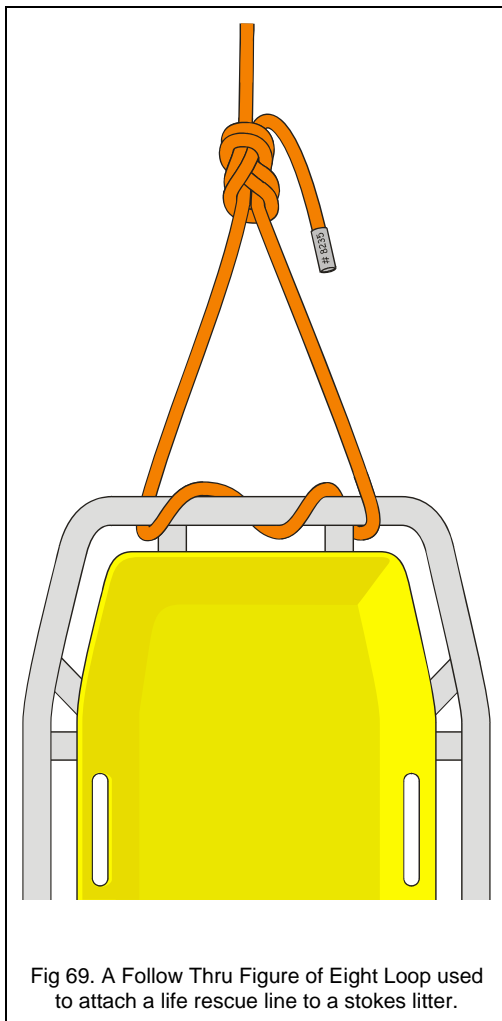

Fig 69. A Follow Thru Figure of Eight Loop used to attach a life rescue line to a stokes litter.
- Is an excellent method of attaching a life rescue line to the head of a stokes litter as shown *in figure 69*.